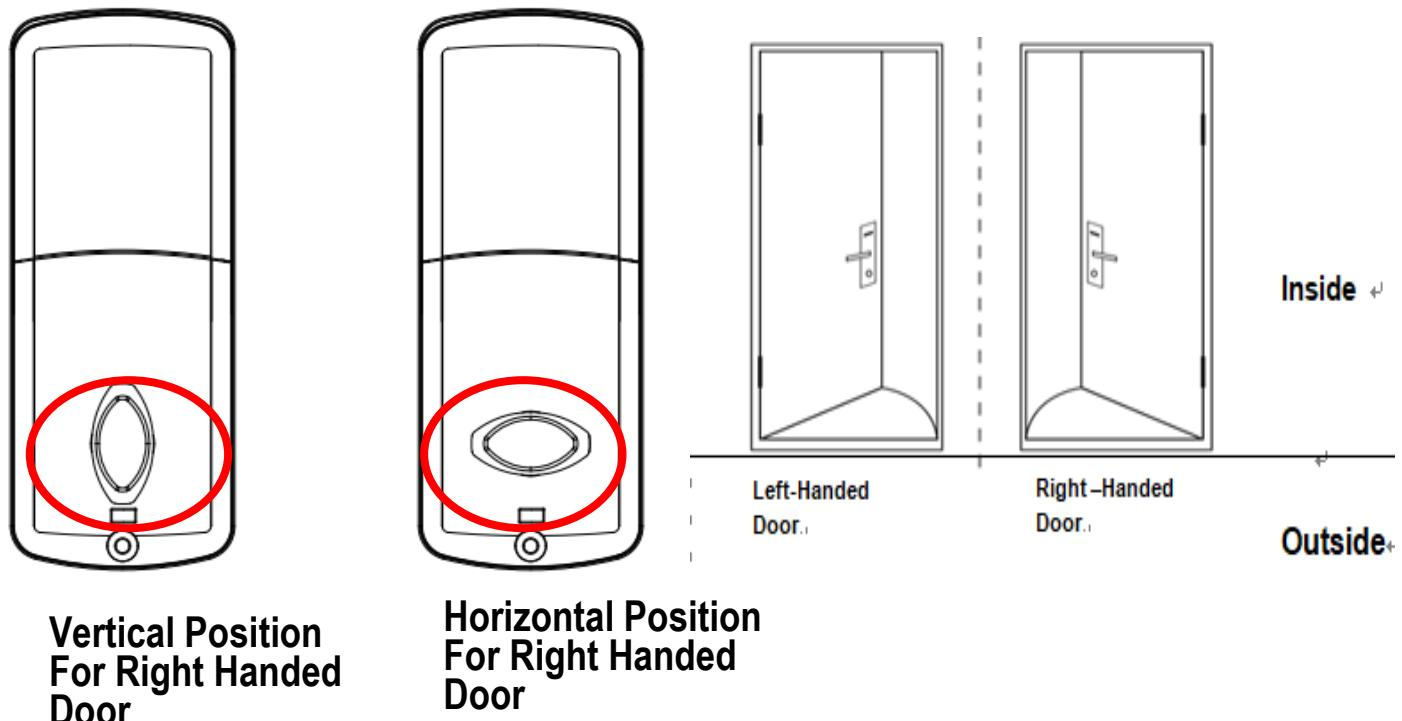

Figure C-5
e. Thumb turn on inside escutcheon need to be turned to different position for right handed door or left handed door in inside escutcheon installation. (see Figure C-5)